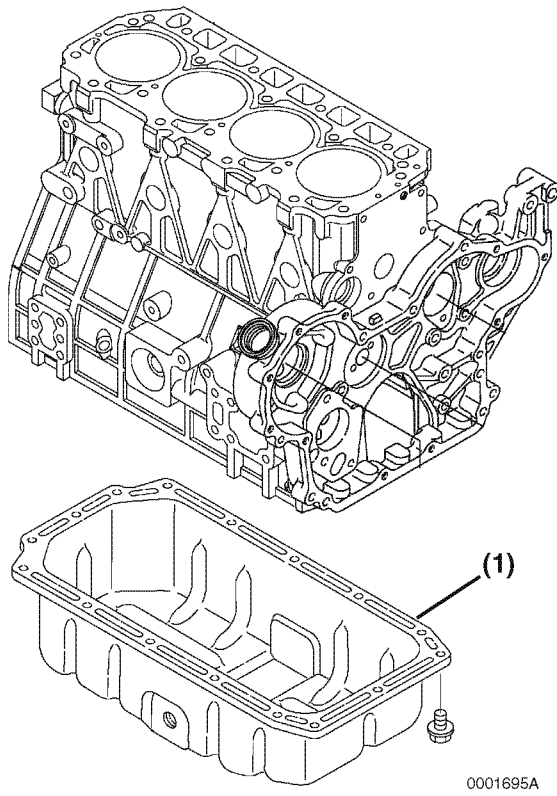

Figure 6-86
1. Apply ThreeBond Liquid Gasket, Yanmar Part No. 977770-01212 to the mounting surface of the oil pan (**Figure 6-86, (1)**).